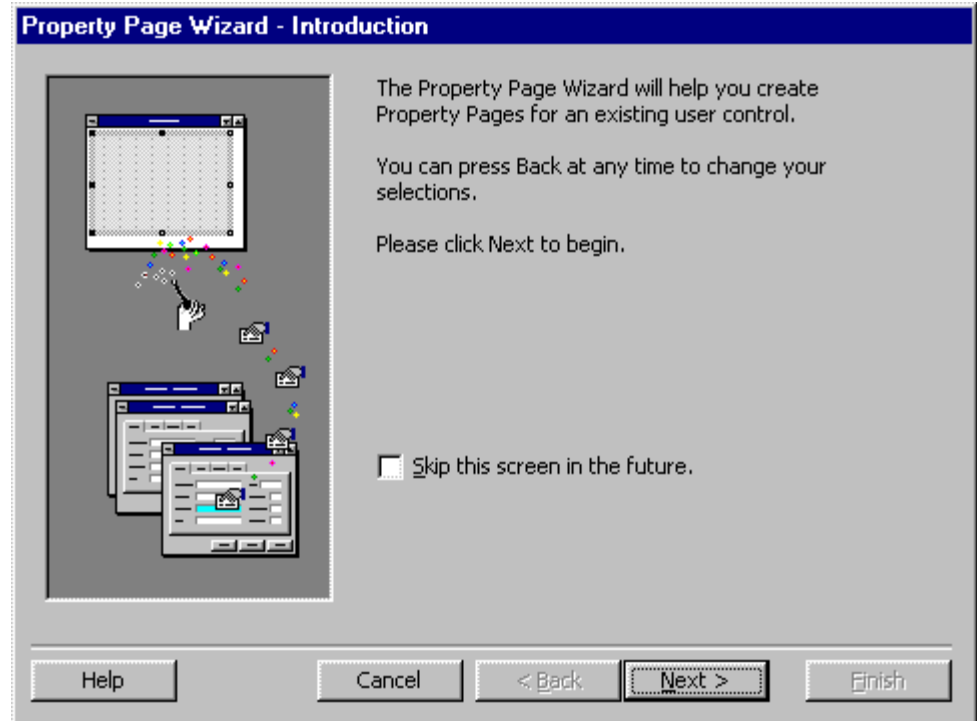

Figure 17. Introduction to the Property Page wizard.
3. Choose the **Add-Ins|Property Page Wizard...** menu item. You'll be greeted with an introductory page (unless you've told the wizard not to show you this page). Figure 17 shows the introductory page.